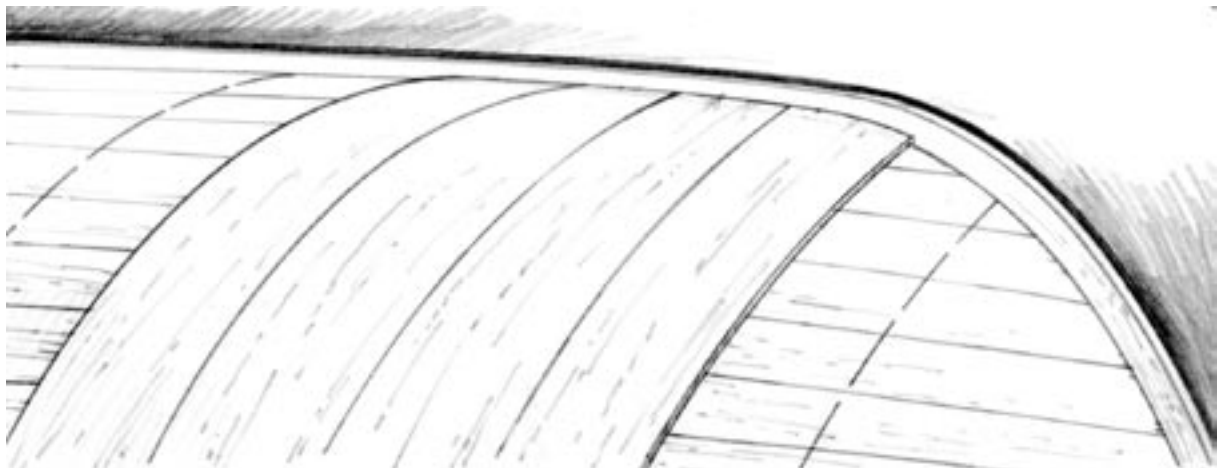

Figure 6-21 Bond the first layer at an angle that allows it to lie flat against the surface.
2. Bond the first veneer about midpoint on the hull. Use the one-step bonding technique (Section 3.4.2) with an epoxy/low-density filler mix. Staple the veneer so it lies flat against the surface at about a 35° diagonal (*Figure 6-21*). Adjust the angle as necessary to allow the veneer to lie flat along its full length.